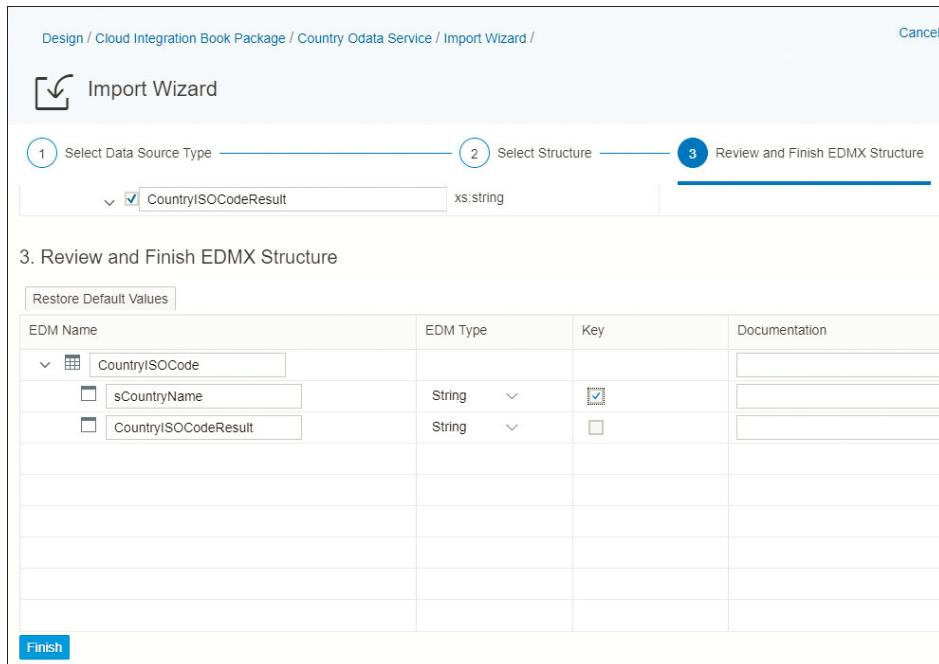

Figure 4.102 Reviewing the EDMX Structure
6. You're redirected to the next page in the wizard where you can review the generated EDMX structure. You can change the names or EDM type of any element and add comments and descriptions for each element using the **Documentation** field (Figure 4.102). Be aware that it's mandatory to select one of the elements as the primary key. When done, click on the **Finish** button.
In the step presented in Figure 4.102, it's mandatory to select a primary key that represents a unique identifier for the OData model. Without selecting a primary key, you're confronted with an error, and it's not possible to proceed to the next screen of the wizard.